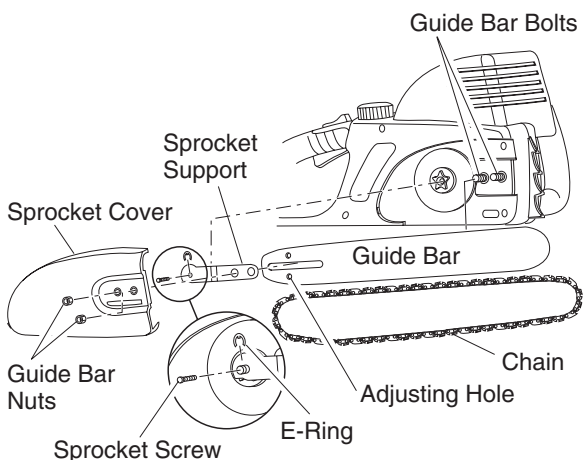

Figure 1 - Installing Guide Bar and Chain
2. Loosen the guide bar nuts (see Figure 1).
5. Remove sprocket cover, if needed (see Figure 1).
6. Remove sprocket support, if needed. *Note:* Depending upon model, either loosen and remove sprocket screw or remove E-ring from shaft (see Figure 1, Style B).
2. Place bar on guide bar bolts (see Figure 1).
5. Replace sprocket support (if removed in earlier step) and tighten sprocket screw firmly or replace E-ring onto shaft, depending upon model (see Figure 1, Style B).
8. Replace guide bar nuts on guide bar bolts and finger tighten (see Figure 1).
2. Ensure the adjustment block is in the adjusting hole on guide bar (see Figures 1 and 3).